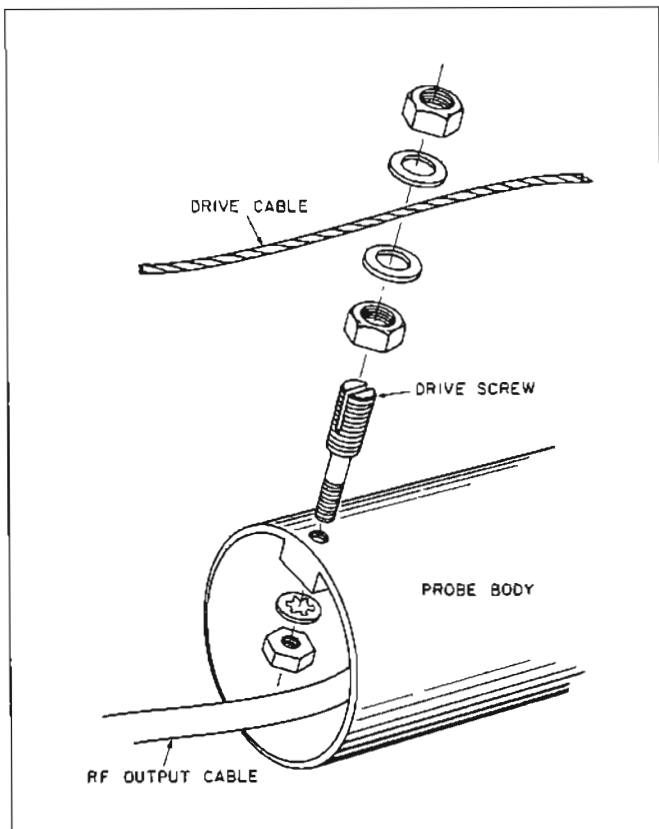

Figure 5-25. Disassembly of Attenuator Drive Cable
- b. Remove nut and washers that hold drive cable in probe drive screw (Figure 5-25) in top of attenuator probe.